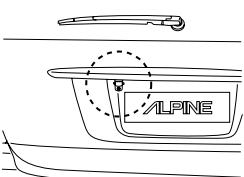
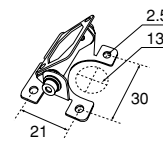

Fig.1/Schéma 1/Fig.1
Fig.2/Schéma 2/Fig.2
- Attach the camera to the camera mounting bracket ②. Pull the camera cable through to the camera mounting bracket ②, and secure with the hex screws ③ (see Fig. 1).
- Loosen the camera mounting bracket ② and angle adjustment screw. Determine the attachment angle, and carefully tighten the angle adjustment screw.
- Make a 13 mm hole in the rear bumper camera mounting bracket (see Fig. 2).
- If necessary, use a self-tapping screw ⑨ to fix the camera mounting bracket (In the case of a plastic mount area).